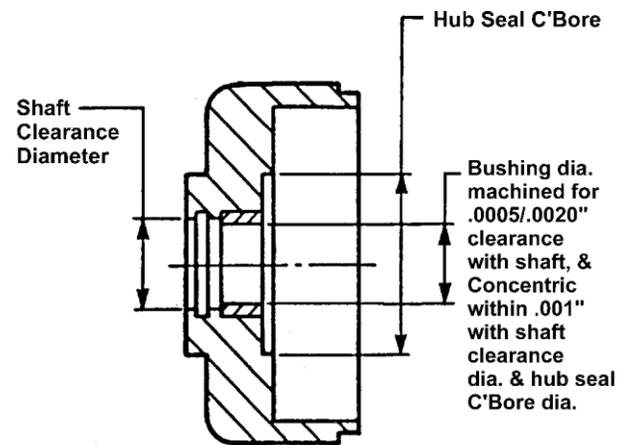

Figure 1. Bushing Machining Requirements
- b. Pull V-rings (1) from each end of the wing shaft. Unscrew and remove cap screws (2). Tap around the periphery of end & bushing assembly (3) until the end is loose, then remove it from body & bushing assembly (19).
- c. Remove hub seal (5), hub seal ring (6), and hub seal spring (7) from end (3). Take shaft seal (8) and shaft seal O-ring (9) out of the groove in end (3). If necessary, remove dowels (4) from end (3) or body (19).
- d. Bushing (10) in end (3) is a Journal type and replacement should be governed by the following criteria.
3. Journal bushings are normally installed at the factory as they are a press fit in the ends and must be machined after installation to match the wing shaft diameter with a diametrical clearance of 0.0005 to 0.0020 inches. Figure 1.
4. End (3) supplied as a spare part contains a Journal bushing and is machined to match the wing shaft diameter.
- e. Remove end seal O-ring (11) from body(9).